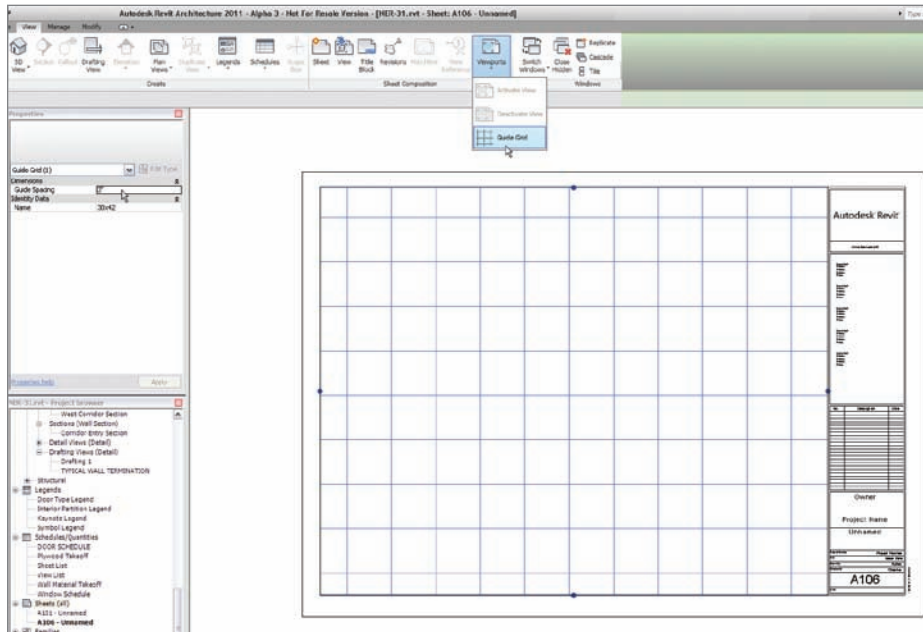

FIGURE 14.2 New to Revit 2011, you can add a guide grid to a sheet.
1. On the View tab, click Guide Grid, as shown in Figure 14.2.
3. Select the guide grid, and drag it into place by using the blue grips, as shown in Figure 14.2.
4. With the guide grid still selected, change Guide Spacing to 3" in the Properties dialog, as shown in Figure 14.2.